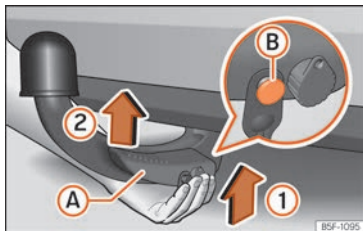

Fig. 301 Putting the tow hook in place. Step 1.
- Hold the tow hook **from below** and fit it into the hook housing in the direction of the arrow >>> Fig. 301 (1) until it is heard to fit into place >>> ⚠.
Lever >>> Fig. 301 (A) **automatically** turns in the direction of arrow (2) upwards, and the release bolt (B) moves outwards (its red and green parts are visible) >>> ⚠.
- **Keep your hands away from the lever when fitting the tow hook to avoid trapping your fingers >>> Fig. 301 (A).**